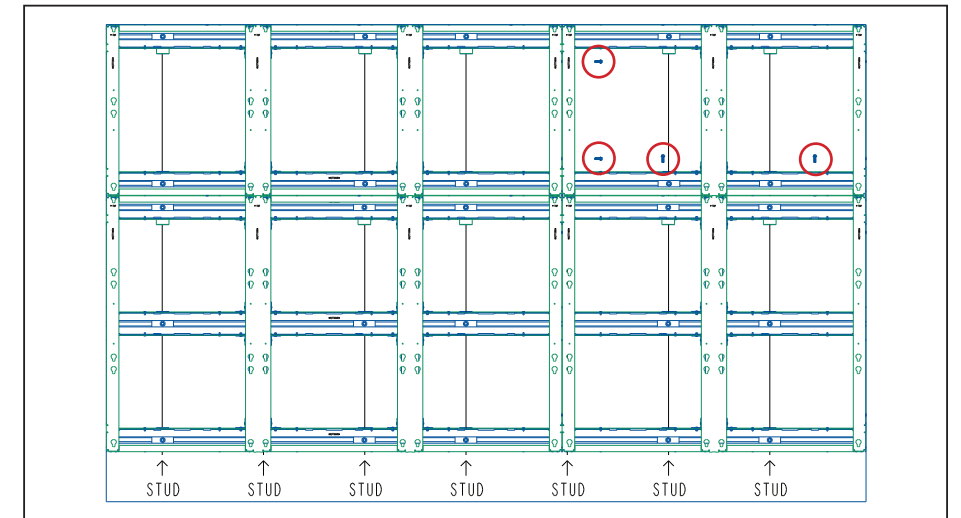

Figure 12: Install Remaining Frames
6. Install the remaining frames while leaving the frames slightly loose from the wall. Refer to **Figure 12**.